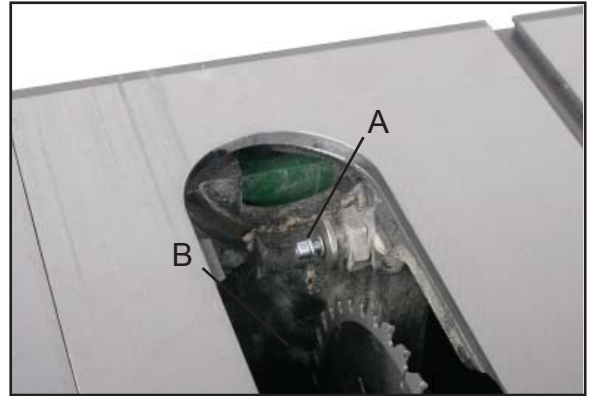

Figure 17
1. Remove table insert and raise the saw blade, then loosen the hex head cap screw (A, Fig.17) located on the rear table trunnion assembly. Figure 17.
2. Install guard post through slot at rear of saw and into the hole in the trunnion. Fasten into place with one 8MM square nut (B, Fig.17) with 14MM wrench. Figure 18.